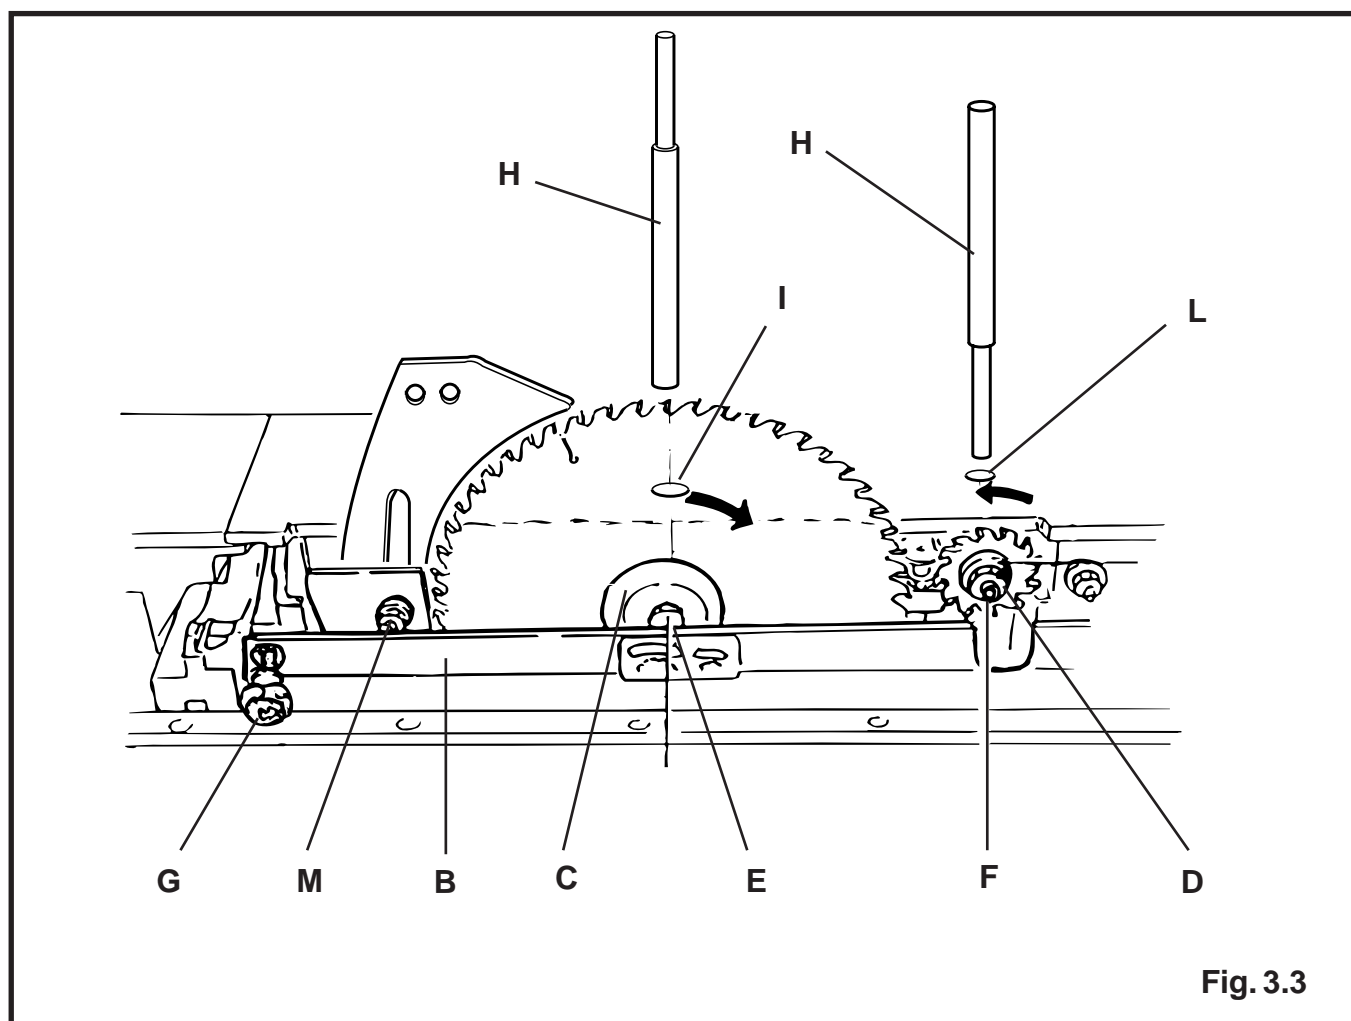

Fig. 3.3
3.3 LAMA SEGA (FIG. 3.3)
3.4 LAMA INCISORE (FIG. 3.3)
3.3 SAWBLADE (fig. 3.3)
3.4 SCORING BLADES (fig. 3.3)
3.3 HOJA DE LA SIERRA (FIG. 3.3)
3.4 HOJA ENTALLADORA (FIG. 3.3)